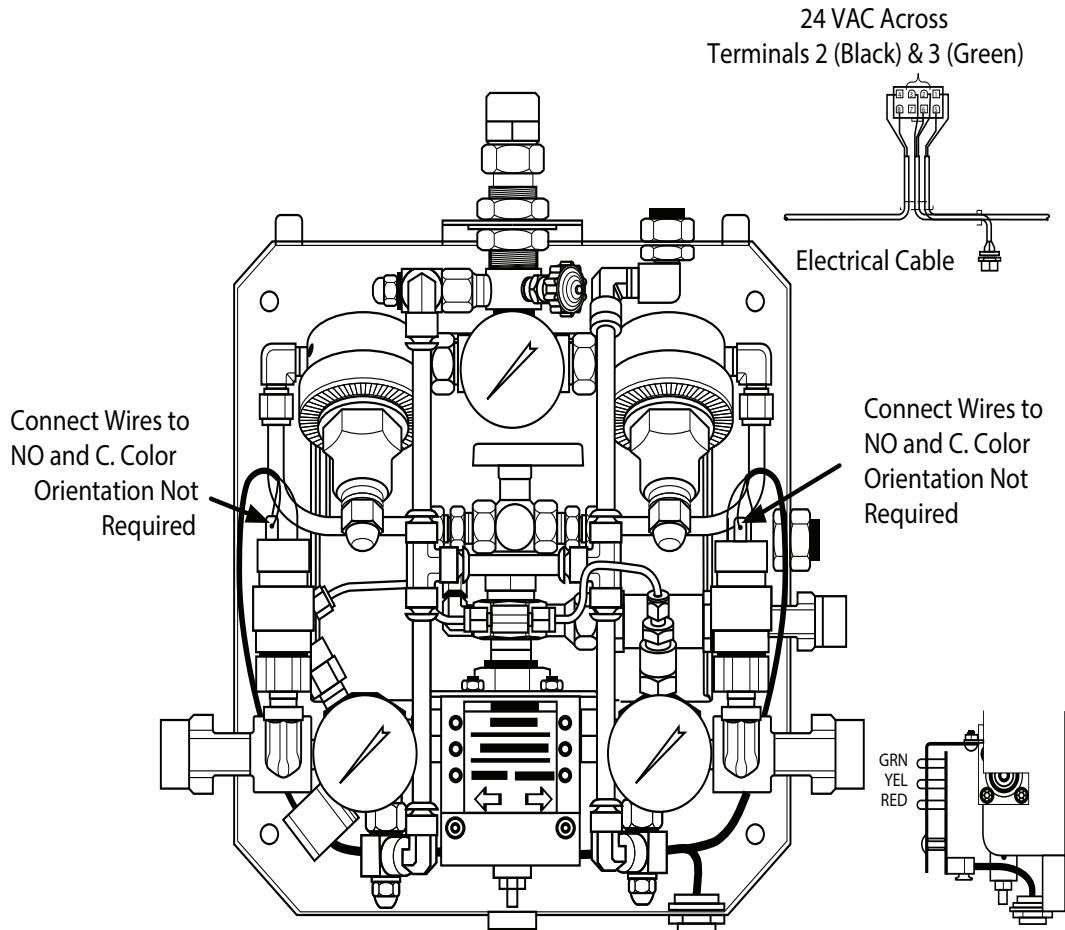

Figure 13: Wiring Diagram
1. Examine the electrical cable inside the manifold control cabinet. The wiring schematic is shown in Figure 13. Look for loose wires, unconnected wires and any broken or damaged switches. Make sure the cable is firmly connected to the pressure switches.
1. Use a voltmeter to make sure the electrical cable has 24-30 VAC at pins 2 and 3 as shown in Figure 13.